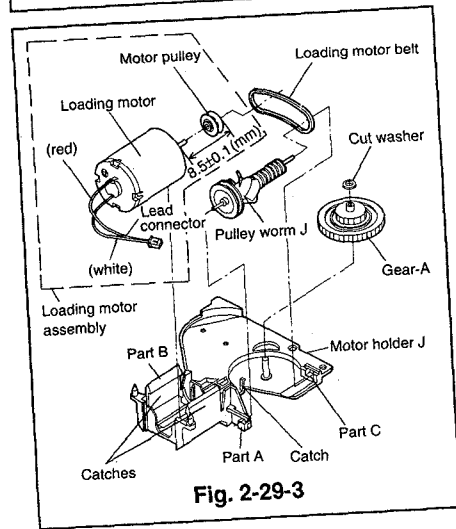
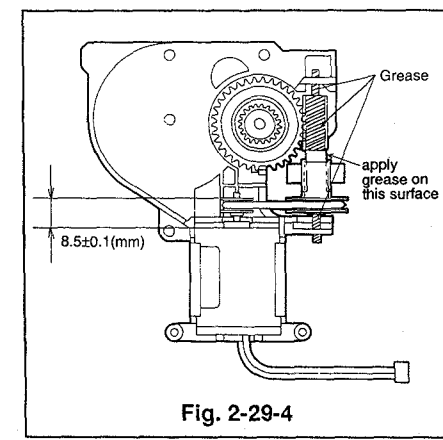

Fig. 2-29-3
Fig. 2-29-4
Remove the loading motor belt from the motor pulley. (Refer to Fig. 2-29-3.)
Unfasten the catches holding the motor holder to remove the loading motor assembly. (Refer to Fig. 2-29-3.)
Remove the pulley worm J, first the end attached to the part A shown in Fig. 2-29-3 and then the other end.
Install the motor pulley on the loading motor so that the space between the loading motor and the outer edge of the motor pulley is 8.5 ± 0.1 mm. (Refer to Fig. 2-29-4)
Install the loading motor assembly so that the label on it faces part B, shown in Fig. 2-29-3.
Apply grease (G)[859D055O50] to the areas shown in Fig. 2-29-4 of the new pulley worm J. Install the pulley worm J, first the end attached to the part C shown in Fig. 2-29-3 and then the other end.
Lift the end attached to the part A shown in Fig. 2-29-3 of the pulley worm J. Fasten the loading motor belt on the pulley worm J and the motor pulley, taking care not to twist the belt.